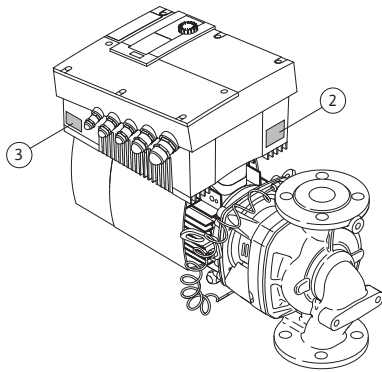

Fig. 12: Arrangement of the name plates:
- The drive name plate is at the inverter on the side with the cable lead-throughs (Fig. 12, Item 3). The electrical connection is to be made in accordance with the specifications on the drive name plate.